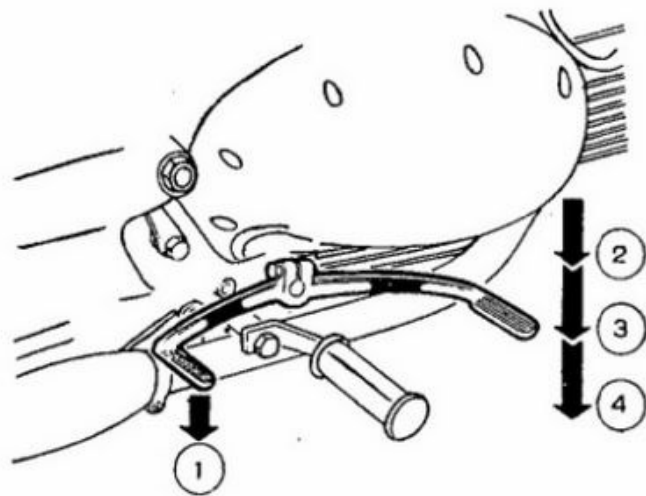

Fig. 2
- The various speeds can be engaged as shown in Fig. 2.